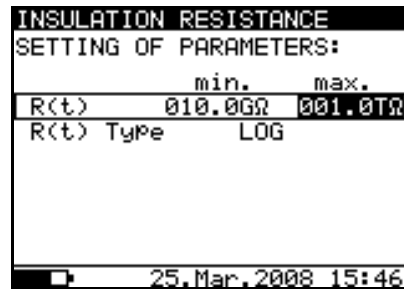

Fig. 19: Setting of graph R(t) parameters
7. The Timer value could be very long (up to 30 minutes), so the special automatic decimation algorithm (LOG) is use to write the Graph R(t) at display (see Fig. 19)